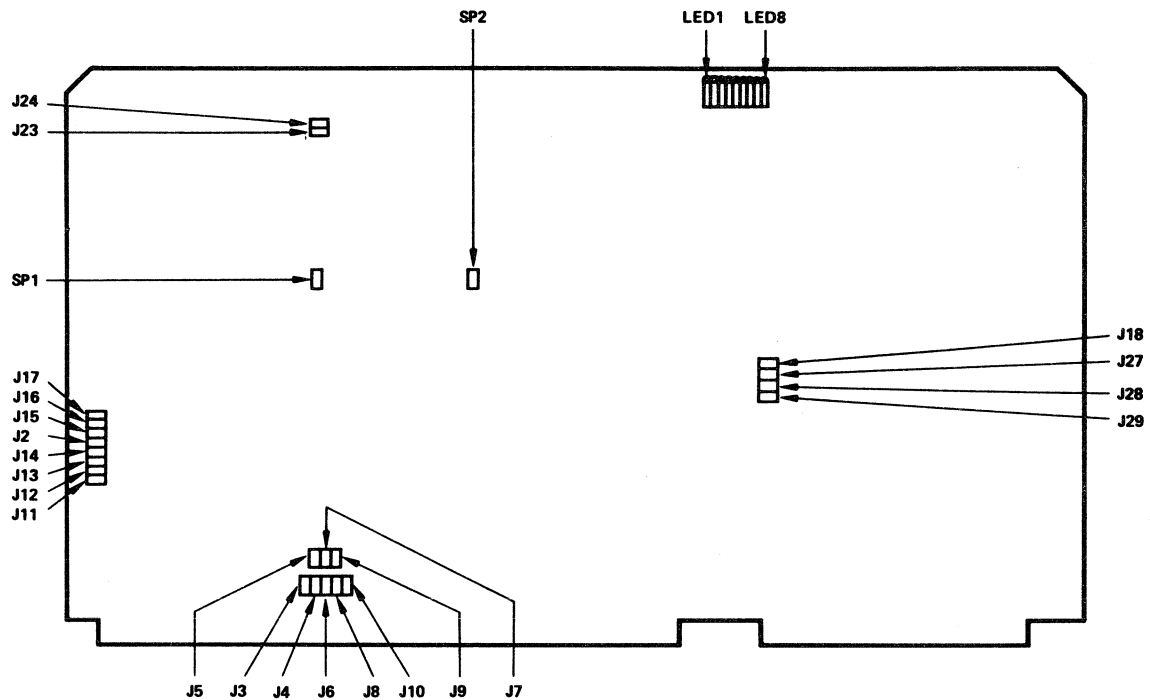

Figure 5-11 SIO-3270 Board
Figure 5-11 illustrates the positions of the LEDs and configuration areas on the SIO-3270 board. Table 5-15 lists the default configuration of the board, indicating the presence or absence of shorting plugs ("In" and "Out", respectively) in the configuration areas.
- **Areas J2 and J14** assign the SIO-3270 board number (SIO 1 through SIO 4). The locations of these areas are indicated in Figure 5-11. Board number assignment is required only for boards ordered separately; factory-installed boards have preassigned board numbers and have been configured as required. Table 5-16 lists the board numbers assigned by each combination of shorting plug positions.
- **Areas J3 through J6** are used to set the Multibus interrupt level (levels 4 through 7). The locations of these areas are indicated in Figure 5-11.